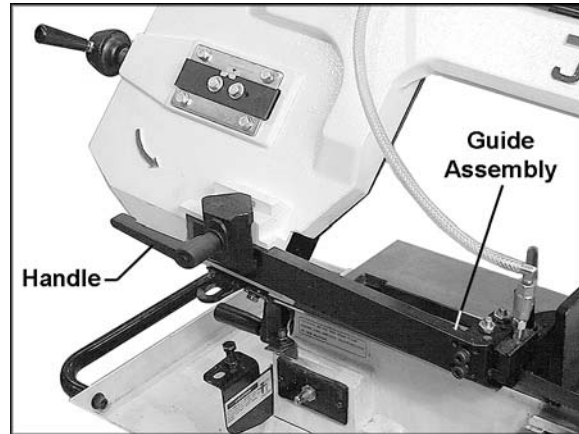
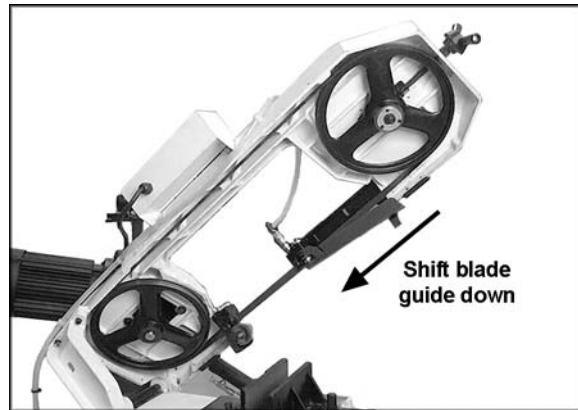

Figure 17
Figure 19
Loosen the handle (Figure 17) and slide the guide assembly as close to the workpiece as possible. This will prevent excessive exposure of the blade during operation.
[NOTE: The handle (Figure 17) can be adjusted out of the way. Lift up on the handle and rotate it on the pin. Release the handle, making sure it seats itself properly on the pin.]
2. Loosen the handle (Figure 17) and move the blade guides away from the wheel, as shown in Figure 19.